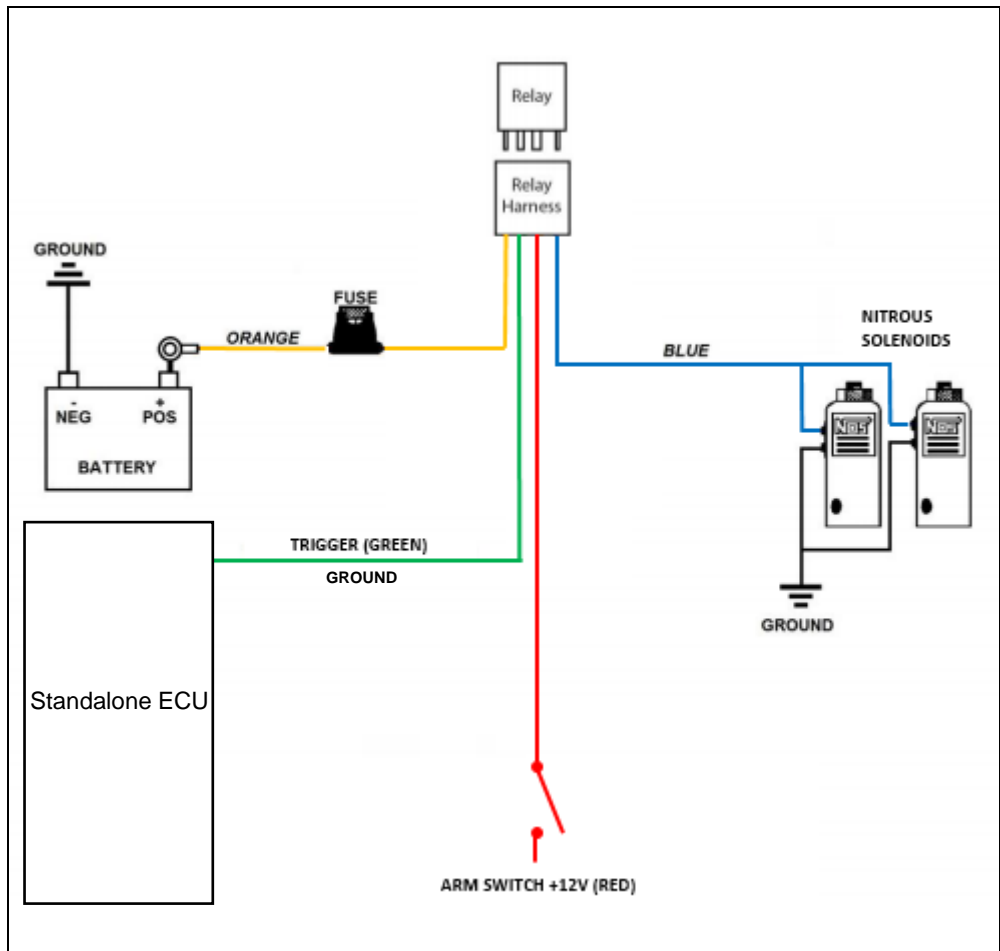

Figure 14 – Relay Wiring
****Progressive Wiring** – A regular switching relay should never be used for progressive nitrous operation (other than for supplying constant power, it should never be "pulsed"). Figure 14 shows the proper wiring for a single stage non-progressive system. For additional stages, additional driver modules are required. **Note: PN 15620NOS MUST be used for a progressive nitrous system.**